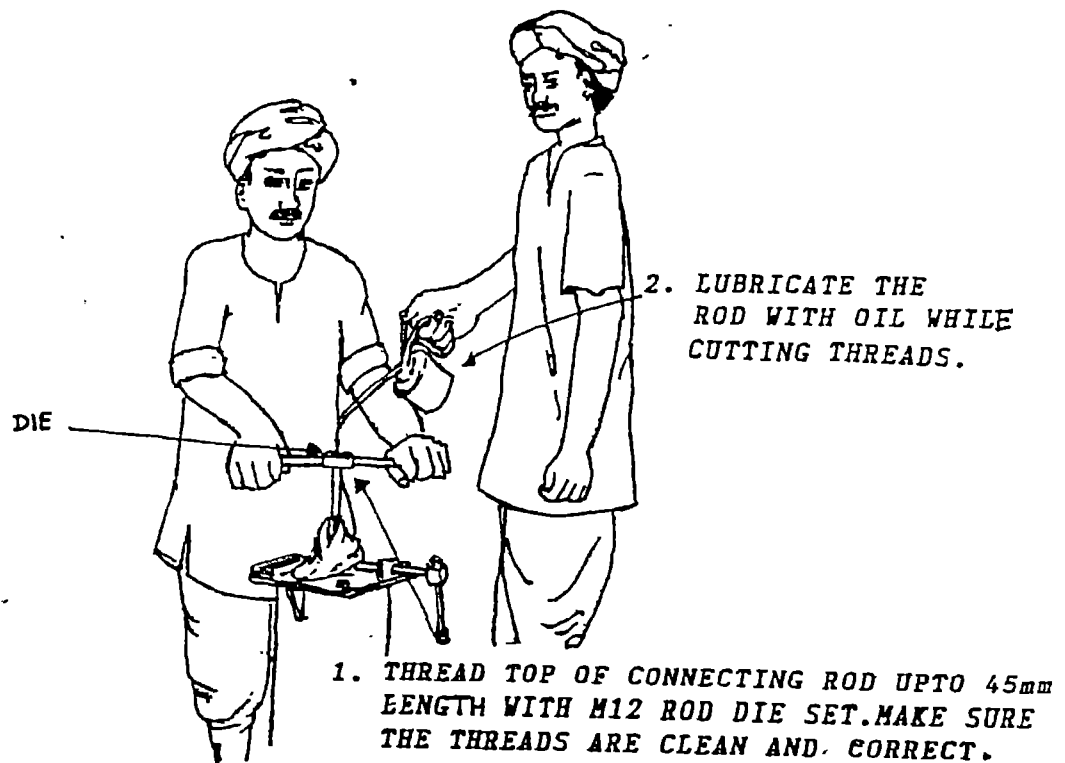

FIG:4.36 MAKE THREADS ON THE TOP MOST END.
- xv) Make necessary threads on the top most end of connecting rod. (Fig. 4.36)